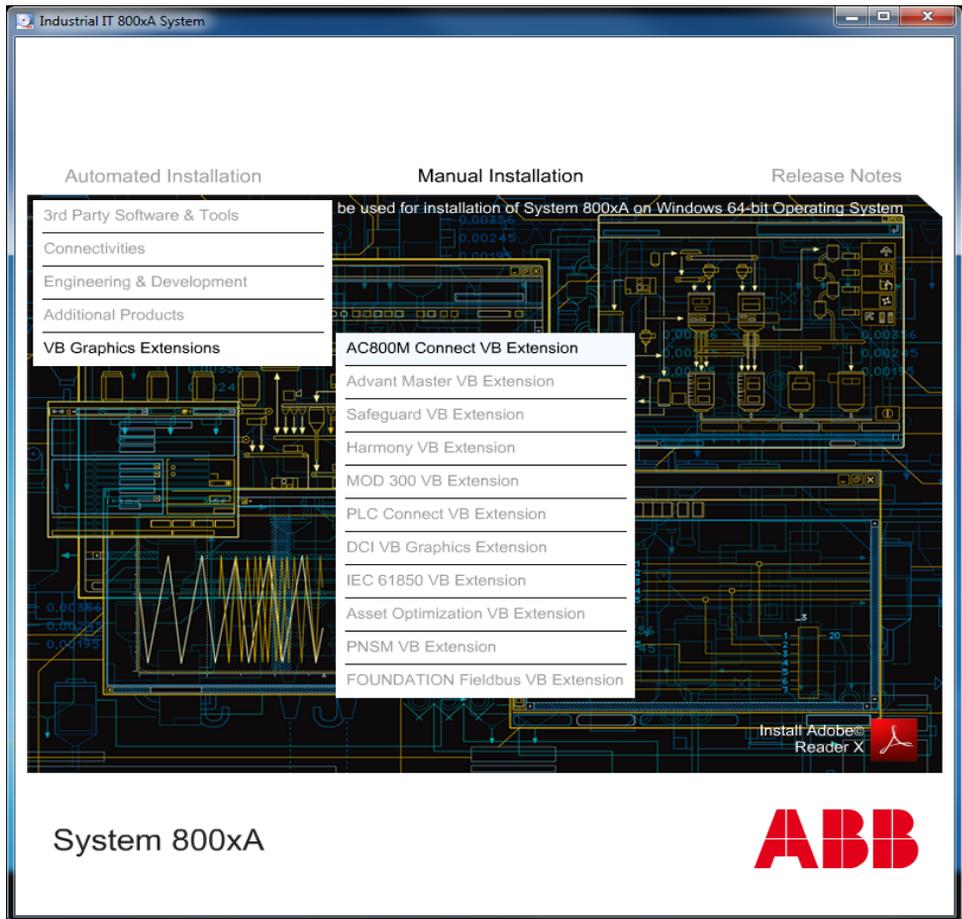

Figure 7. Installation AUTORUN Screen
- Manual Installation > VB Graphics Extensions** (see Figure 7)